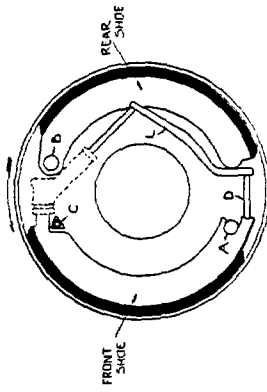

Figure 24
stop is made in the Wagner Hi-Tork brake is different than the conventional stepped-bore cylinder in that the cylinders are at an angle. It will also be noted that the small wheel cylinder piston does not operate directly against the rear shoe but instead transmits its force to the rear shoe through a system of levers consisting of the lever (L) and the star wheel connector shaft (S). This action can also be more clearly understood by referring to Figure 24.
stop is made in reverse, the front shoe operates as a Forward Acting Shoe and anchors up against the reverse anchor pin (C). During a reverse stop, the rear shoe operates as a Reverse Acting Shoe and is anchored in the conventional manner by the anchor pin (B). This action can probably be better understood by referring to the cut-away diagram (Figure 24). It will be noted that the wheel cylinder